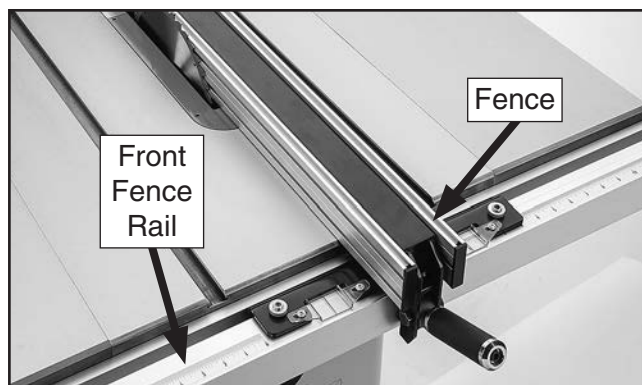

Figure 29. Fence installed on front rail.
16. Place fence on front fence rail, as shown in **Figure 29**. Press handle down to lock fence in position.